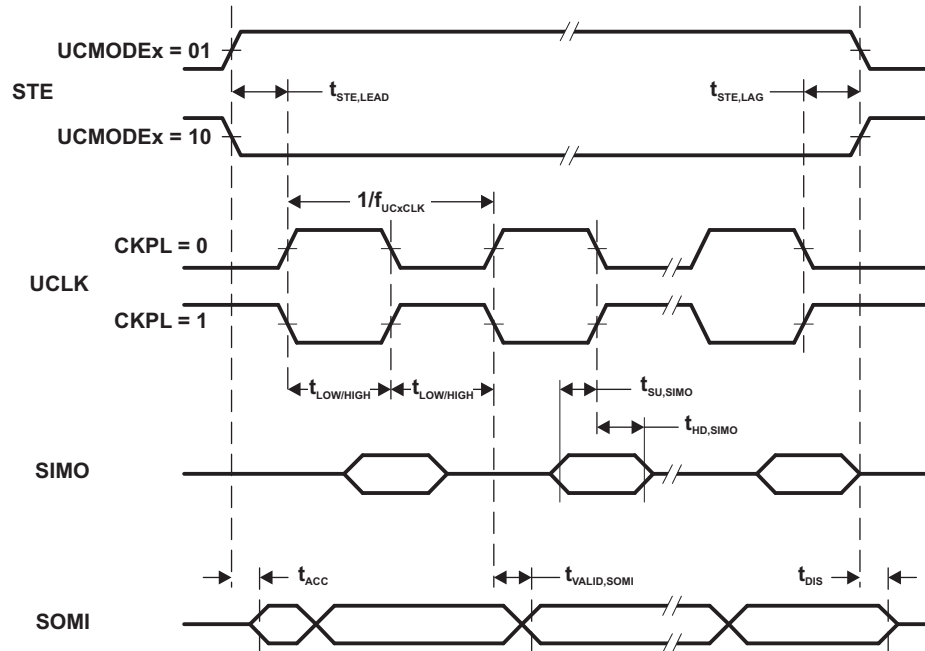
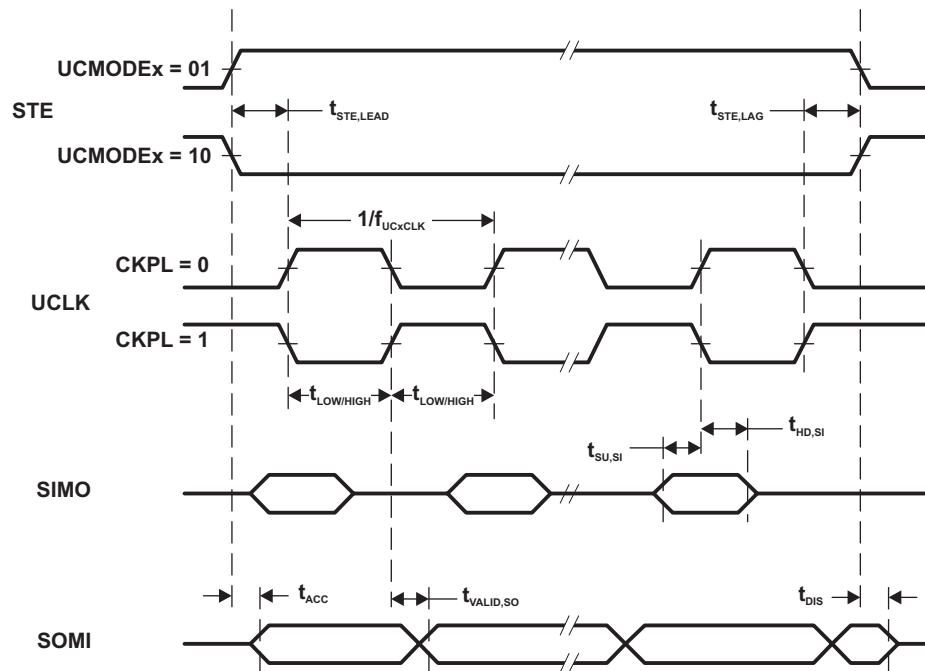

Figure 8. SPI Slave Mode, CKPH = 0
Figure 9. SPI Slave Mode, CKPH = 1
(1) $f_{\text{UCXCLK}} = 1/2t_{\text{LO/HI}}$ with $t_{\text{LO/HI}} \geq \max(t_{\text{VALID,MO(Master)}} + t_{\text{SU,SI(eUSCI)}}, t_{\text{SU,MI(Master)}} + t_{\text{VALID,SO(eUSCI)}})$.For the master's parameters $t_{\text{SU,MI(Master)}}$ and $t_{\text{VALID,MO(Master)}}$ see the SPI parameters of the attached slave.(2) Specifies the time to drive the next valid data to the SOMI output after the output changing UCLK clock edge. See the timing diagrams in Figure 8 and Figure 9.(3) Specifies how long data on the SOMI output is valid after the output changing UCLK clock edge. See the timing diagrams in Figure 8 and Figure 9.